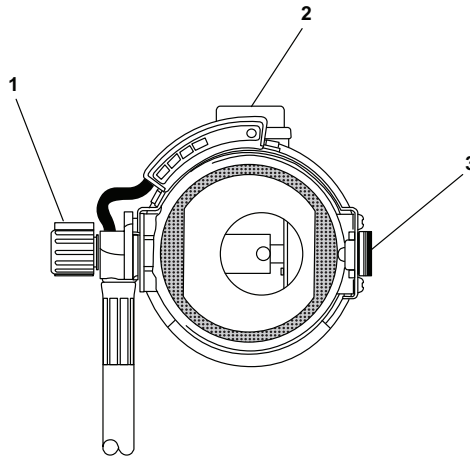

Figure 2-22. Mask-Mounted Regulator Mechanisms
- b. From the perspective of user, orient the purge valve (figure 2-22, item 1) at 12 o'clock and the air saver switch (figure 2-22, item 2) at the 3 o'clock position, insert the mask-mounted regulator into the adapter port and rotate it counterclockwise 1/4 turn until the latch mechanism (figure 2-22, item 3) engages.
- a. Depress air saver switch (figure 2-22, item 2) until click is heard, then release.
- b. Pull out on latch mechanism (figure 2-22, item 3) and rotate mask-mounted regulator 1/4 turn clockwise and remove from adapter port.